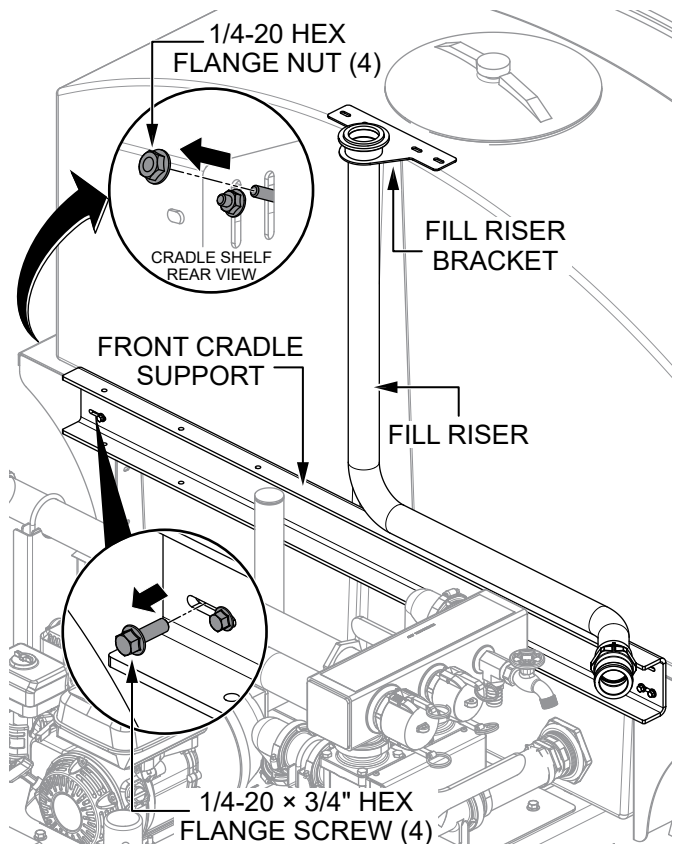

Figure 4. Remove Fill Riser Assembly
3. Remove and discard the **four 1/4-20 × 3/4" hex flange screws** (Figure 4) and **four 1/4-20 hex flange nuts** securing the **front cradle support** to the **left- and right-side cradle shelves**.
4. Remove and discard the **front cradle support, fill riser, and fill riser bracket** (Figure 4).